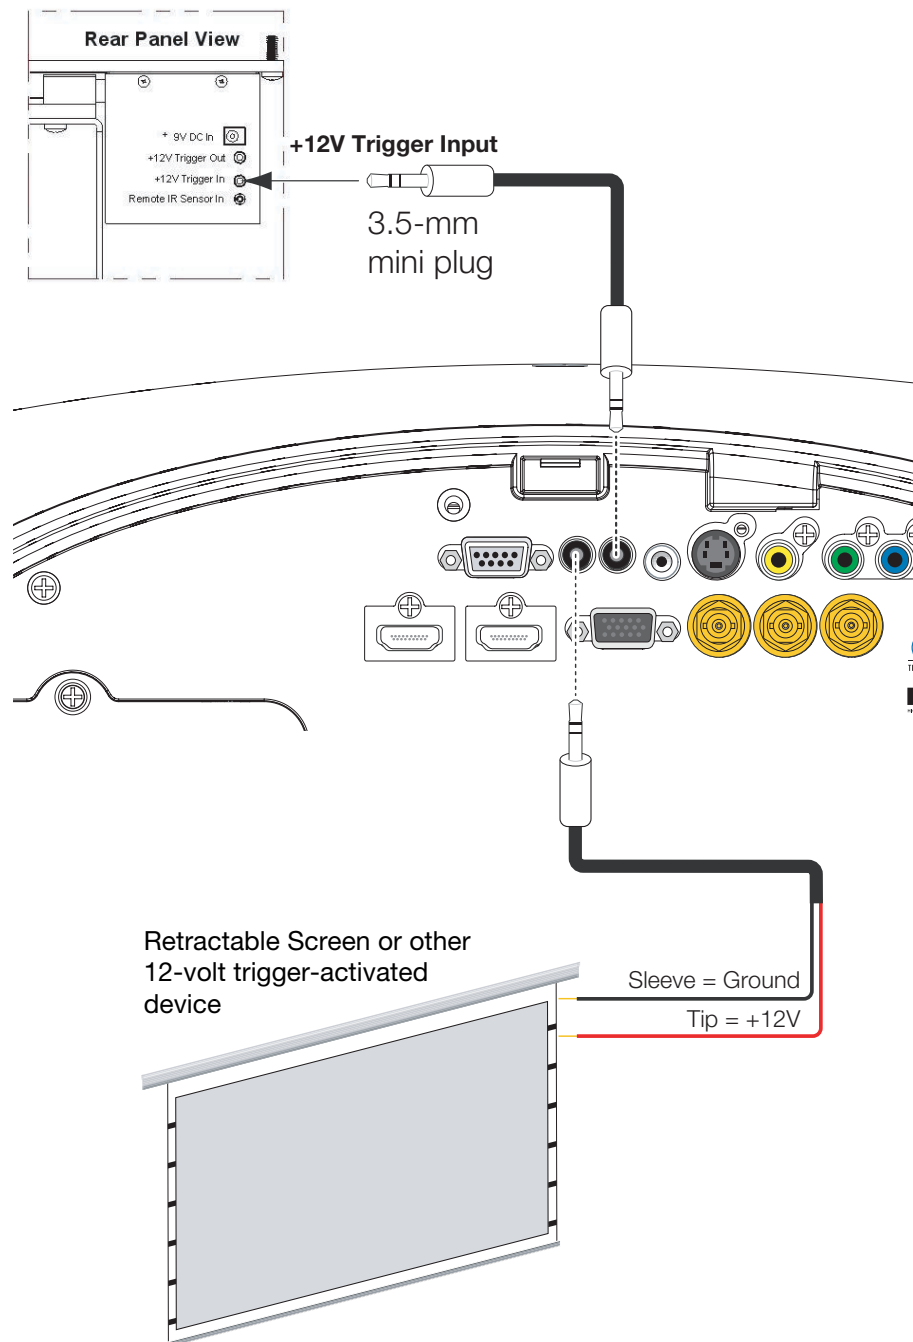

Figure 3-14. 12-Volt Trigger Output Connection
If your home theater contains a retractable screen, screen mask or other 12-volt trigger-activated equipment, connect it to the 12-volt trigger output(s) as shown in Figure 3-14.
*You can skip this step if you connected the lens transport motor to the **TRIGGER 2** output on the LS-10i, as shown in Figure 3-14.*